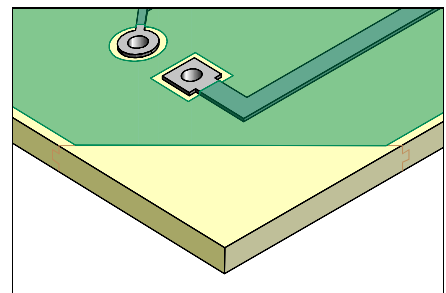

Figure 5: Saw off excess new base material.
14. Saw or mill off excess base material and file flush with existing edge. (See Figure 5).